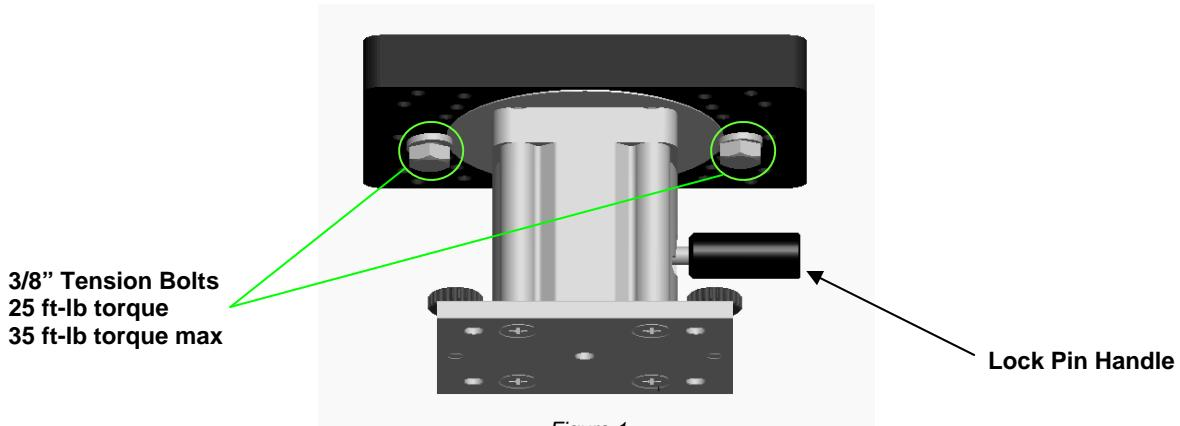

Figure 1
- 1) Locate the 3/8" bolts on the bottom of the top plate (See Figure 1).